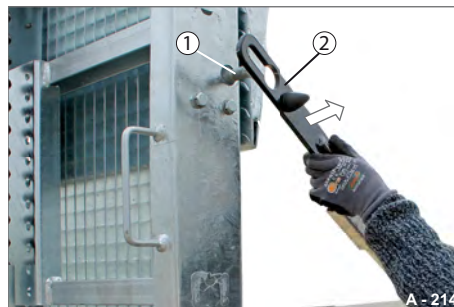

Fig. 52 Removing the securing tensioner
► Remove the securing tensioner (Fig. 52/2) from the gudgeon (Fig. 52/1).